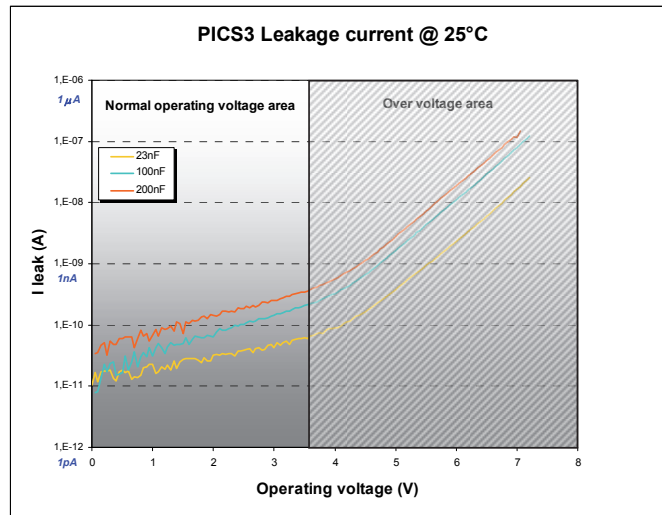

Fig.7 Leakage current in PICS capacitors (PICS3)
- the leakage current which must be as small as possible to ensure the capacitors remain charged. This is important for battery powered applications (see Fig. 7 & 8).